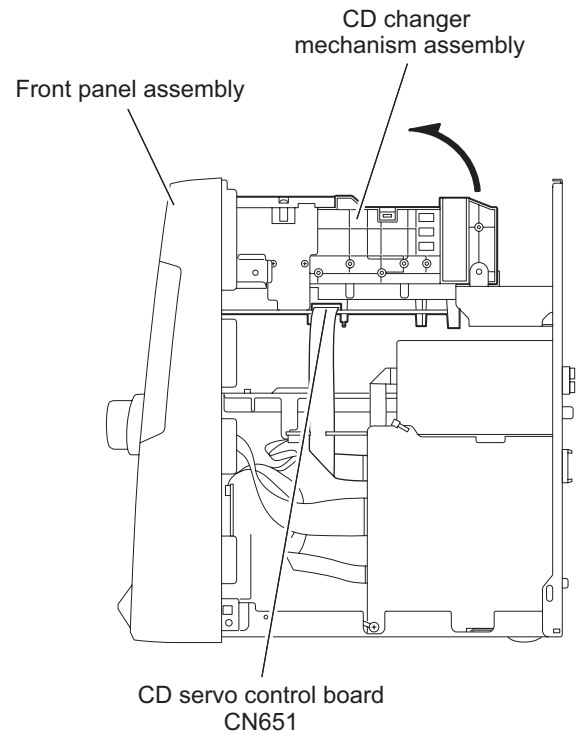

Fig.4
3.1.2 Removing the CD changer mechanism assembly (See Fig.4, 5)